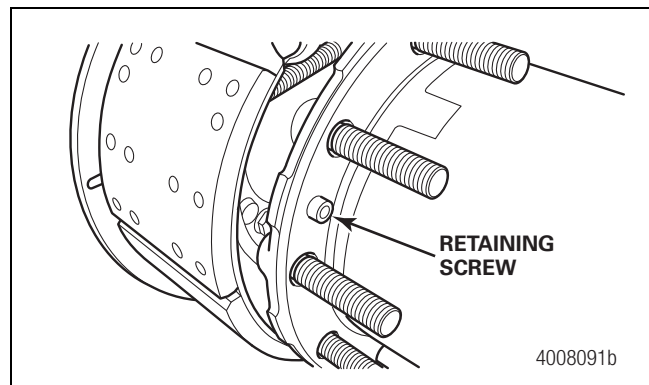

Figure 3.7
12. Block the rotation of the hub. Remove both planetary housing retaining screws. Remove the planetary housing. Figure 3.7.